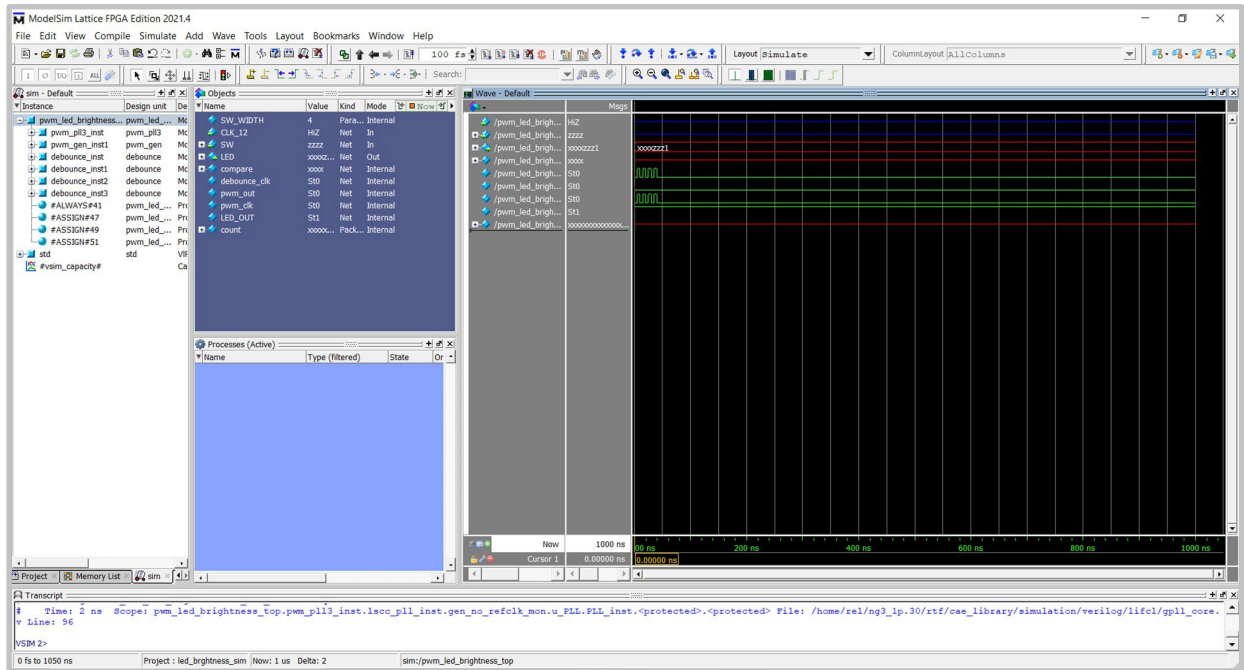

Figure 17: The ModelSim Simulation Wave View
16. When finished, ModelSim will open and run the simulation, see **Figure 17**.